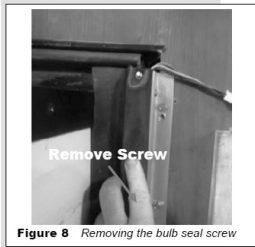

Figure 8 Removing the bulb seal screw
2. If applicable, remove the top screw from the bulb seal at the top of the VERTICAL CHANNEL (Fig 8).